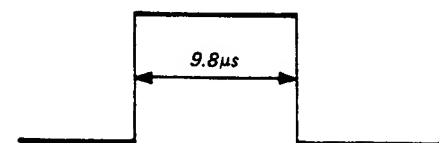

Fig. 23-2
6. Adjust RV1 on the DA board so that the H. BLK pulse width is $9.8\mu s$. Fig. 23-2.